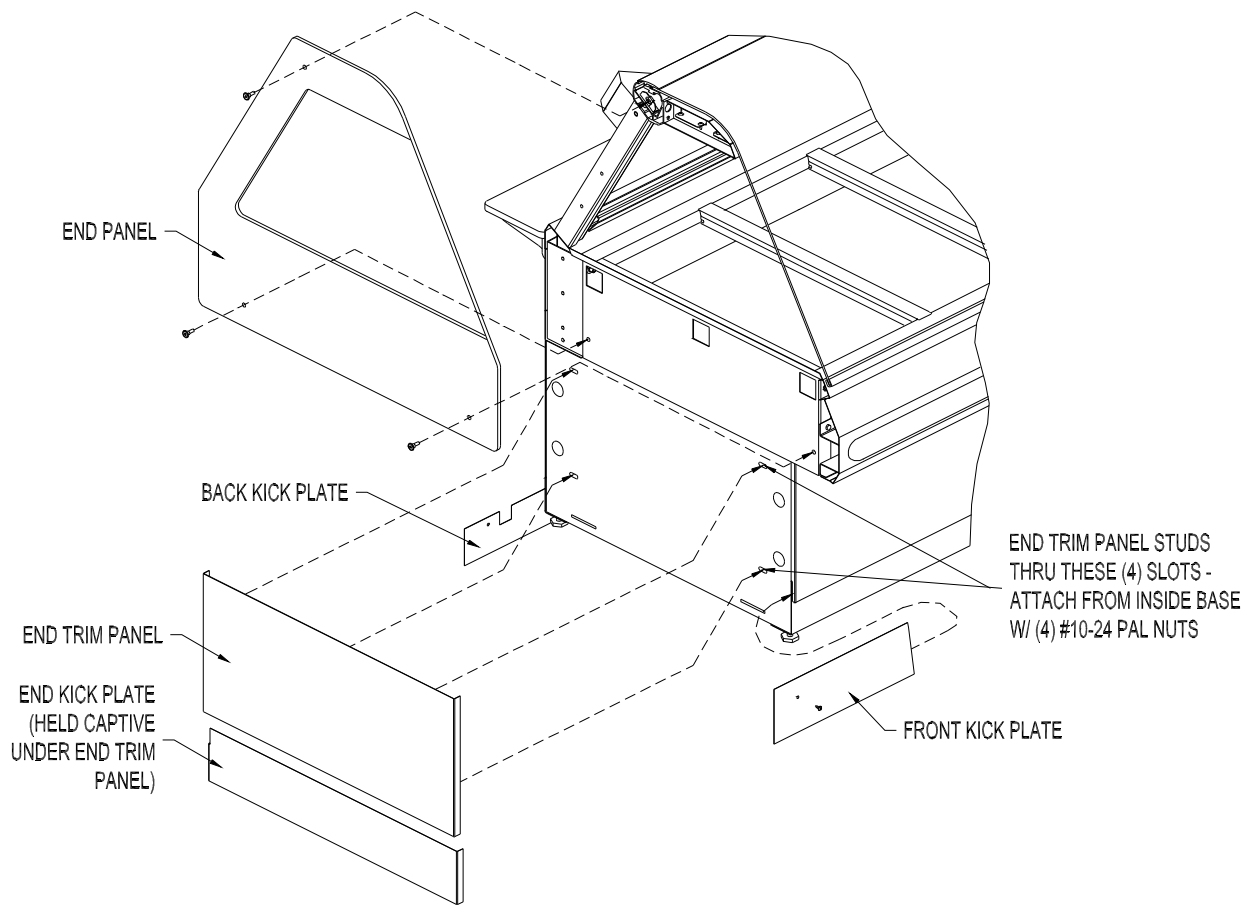

Figure 2. Floor Model - End Kick Plate & End Panel Mounting
NOTE: None of the end components shown in Figure 2 should be attached to adjoining case ends
1. In order to install the Kick Plates it will be necessary to remove the End Trim Panels (see Figure 2). Remove the retaining nuts located inside the base with a 3/8" wrench. From outside of the case pull the End Trim Panels away from the case.
2. Slide the front kick plate (the wider of the two) behind the lower finished front panel of the case (see Figure 2).
7. Set the End Kick Plates into position on the ends of the case flush with the floor (see Figure 2).
Attach the End Panels to the ends of the case(s) as shown in Figure 2 using the shoulder screws provided. For Glass End Panels only, slide the plastic bushings provided over the shoulder screws before inserting the screw into the glass panel. Be careful that the screws do not bind in the holes in the glass panel.
Attach the End Panels to the ends of the case as shown in Figure 2 using the shoulder screws provided. For Glass End Panels only, slide the plastic bushings provided over the shoulder screws before inserting the screw into the glass panel. Be careful that the screws do not bind in the holes in the glass panel.